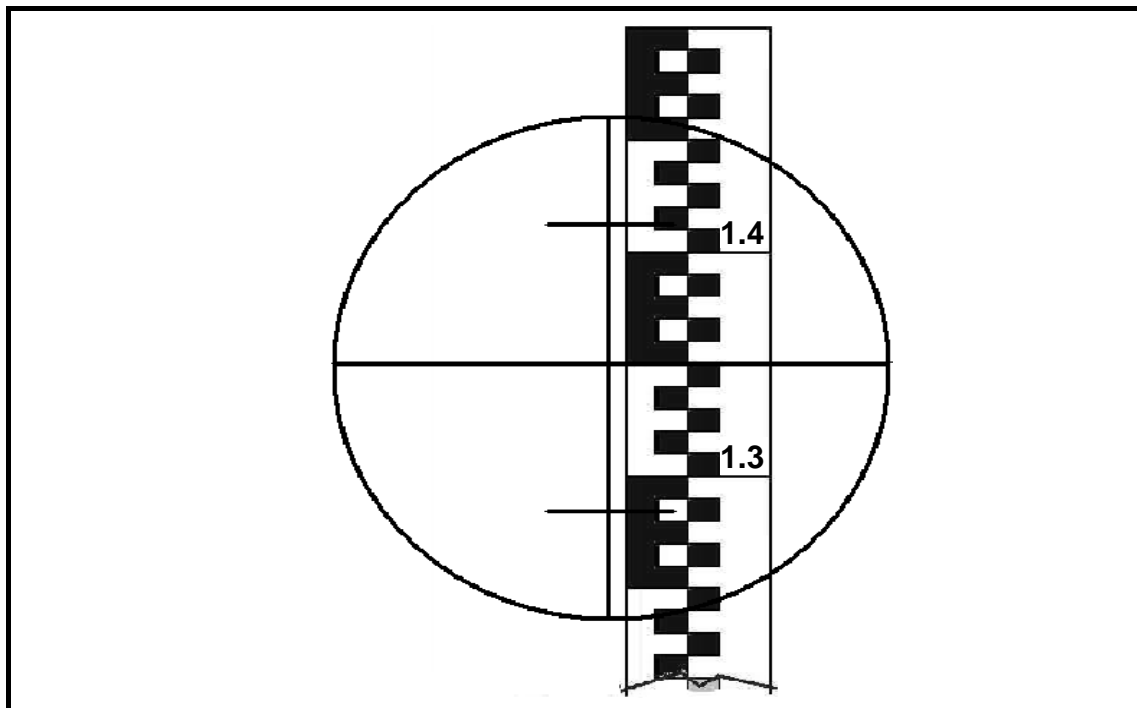

FIGURE 2.7
2.7 FIGURE 2.7 shows the reading of a dumpy level on a telescopic staff. Answer the following questions with regard to the reading.
- 2.7.1 What is the height reading in FIGURE 2.7? (1)
- 2.7.2 Determine the distance from the dumpy level to the staff according to the reading in FIGURE 2.7. Show all the calculations. (3)